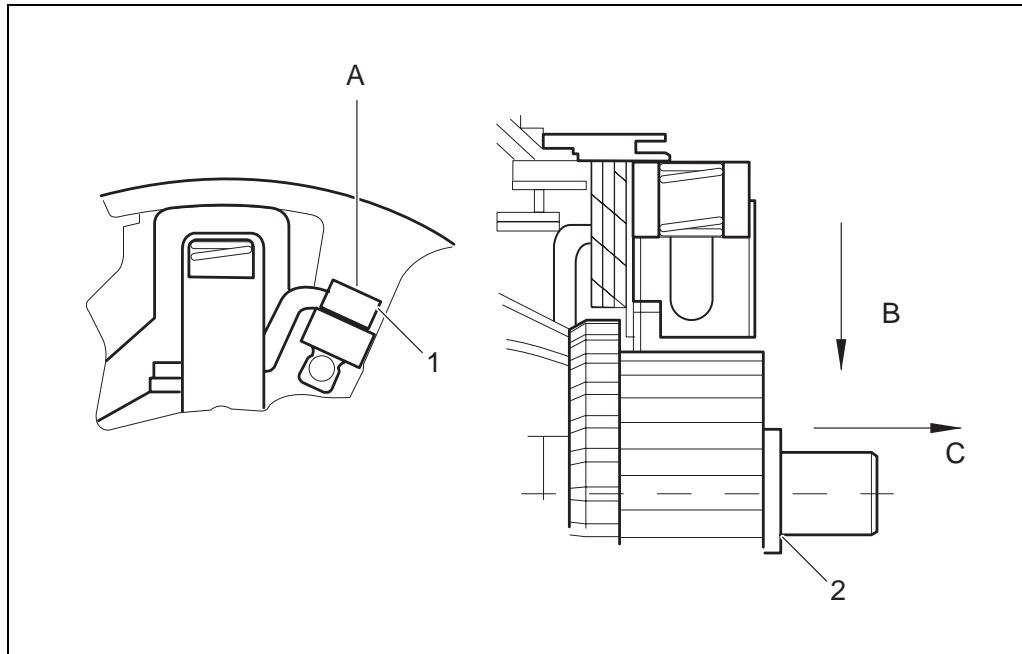

Figure 8.15
7. Disconnect all four brushes by loosening the screws, pos. 1 figure 8.15 - A. Now press each brush set to the commutator pos. 2 figure 8.15 - B. Remove the brush set from the brush rocker - C. The old brush set is replaced with a new set in the reverse order. It is recommended to replace each brush set separately to avoid confusion. Make sure that each brush set is replaced with the correct part, in other words one that has the cable on the correct side. (The service kit consists of two matching pairs of brush sets!)
8. Tighten the screw, pos. 1 figure 8.15, to approx. 1.3-1.8 Nm.
9. Replace the terminals in the slots in the rear end head, and replace it on the motor. Check that there is a washer between the rotor and end head (pos. 2 figure 8.15) and that the holder is held in place with a tooth and slot on the casing in the respective end.